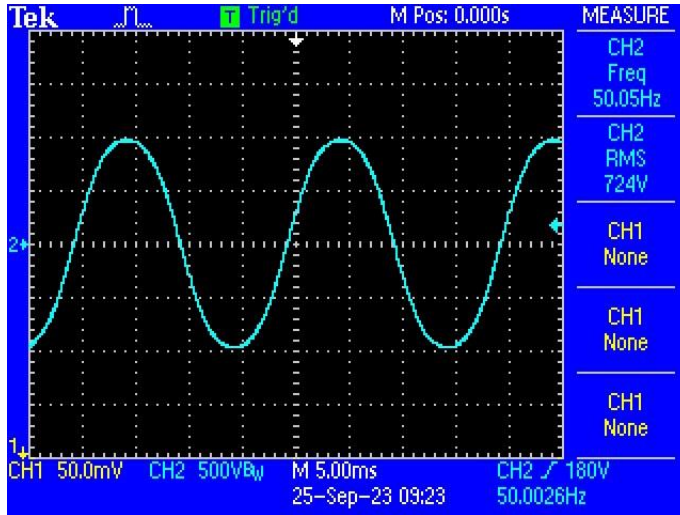

Figure 26. Measured output of AC step-up transformer.
- AC voltage measured at output of the step-up transformer exhibited a clean sine wave ~720 VAC RMS (Fig. 26).